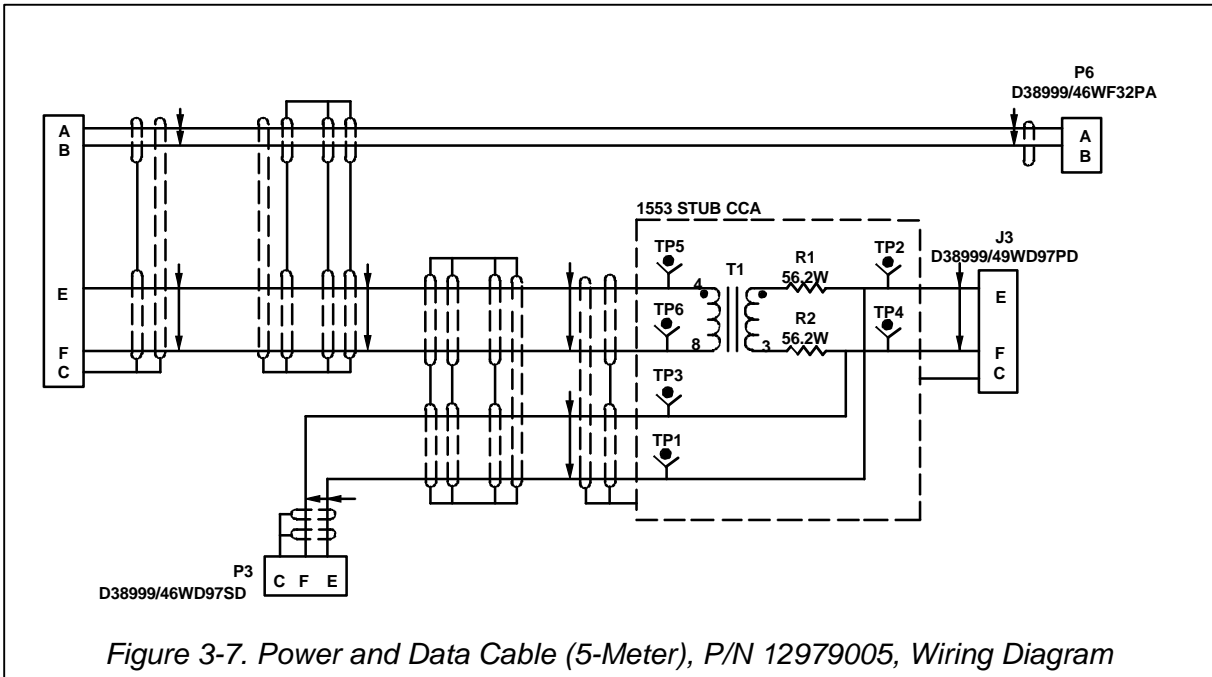

Figure 3-7. Power and Data Cable (5-Meter), P/N 12979005, Wiring Diagram
3.3.7 Fault Isolation Table. Refer to Figures 3-7 and 3-8.